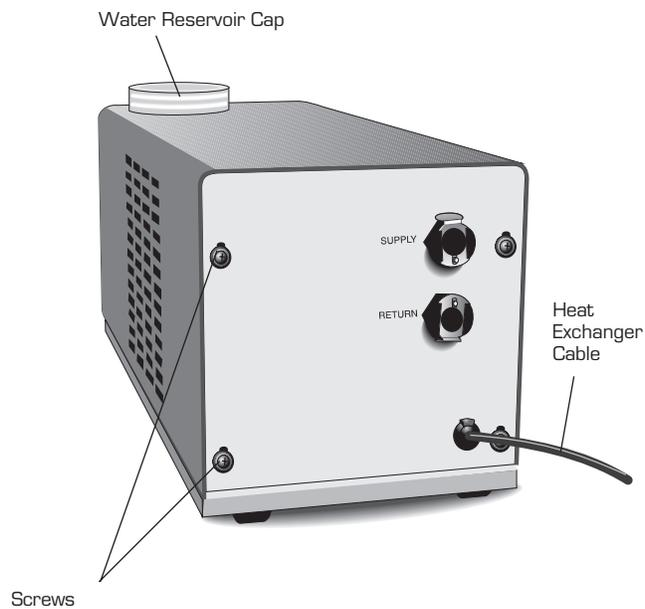

Figure 2.4
The heat exchanger contains a liquid reservoir that supplies the instrument with coolant to dissipate heat from the furnace. The coolant exits the heat exchanger through the supply line, circulates to the furnace, and comes back to the reservoir via the return line as seen in Figure 2.4 (for instructions on how to connect the water lines, turn to page 2-12). To fill the heat exchanger, follow the directions given below.
1. Unscrew the water reservoir cap on the heat exchanger (see Figure 2.4).